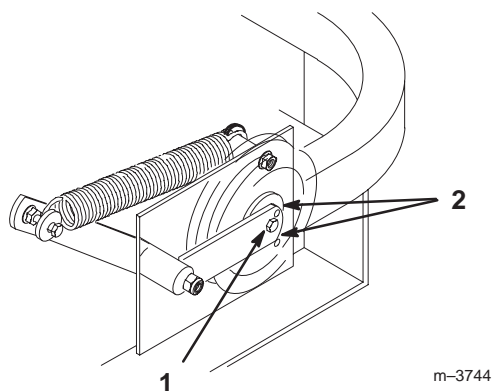

Figure 64
8. Check belt tension. The center bolt of spring loaded idler must be between the two alignment holes in left support plate (Fig 64).
10. Check belt tension again. The center bolt of spring loaded idler must be between the two alignment holes in left support plate (Fig. 64). Adjust, if necessary, and tighten all hardware securely.